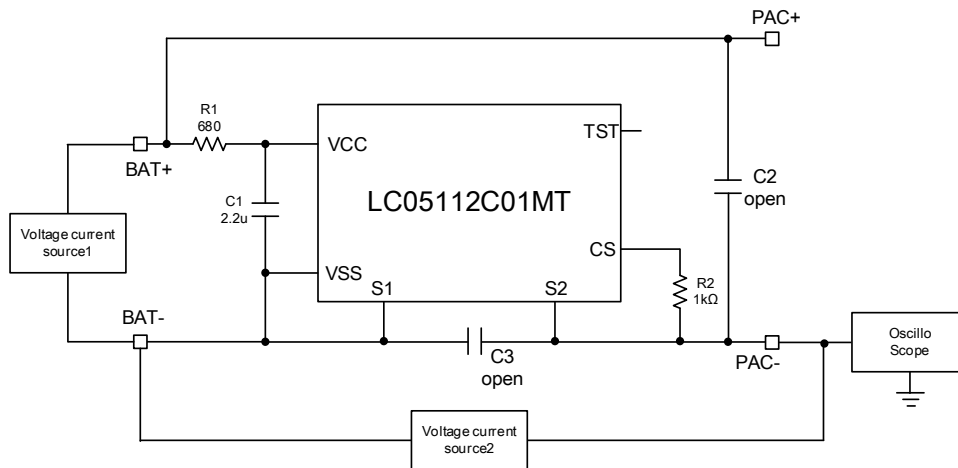

Figure1. LC05112C01MTGEVB Recommended Test Set Up for Charge/Discharge Voltage detection
1. Connect LC05112C01MTGEVB like upper Figure1.